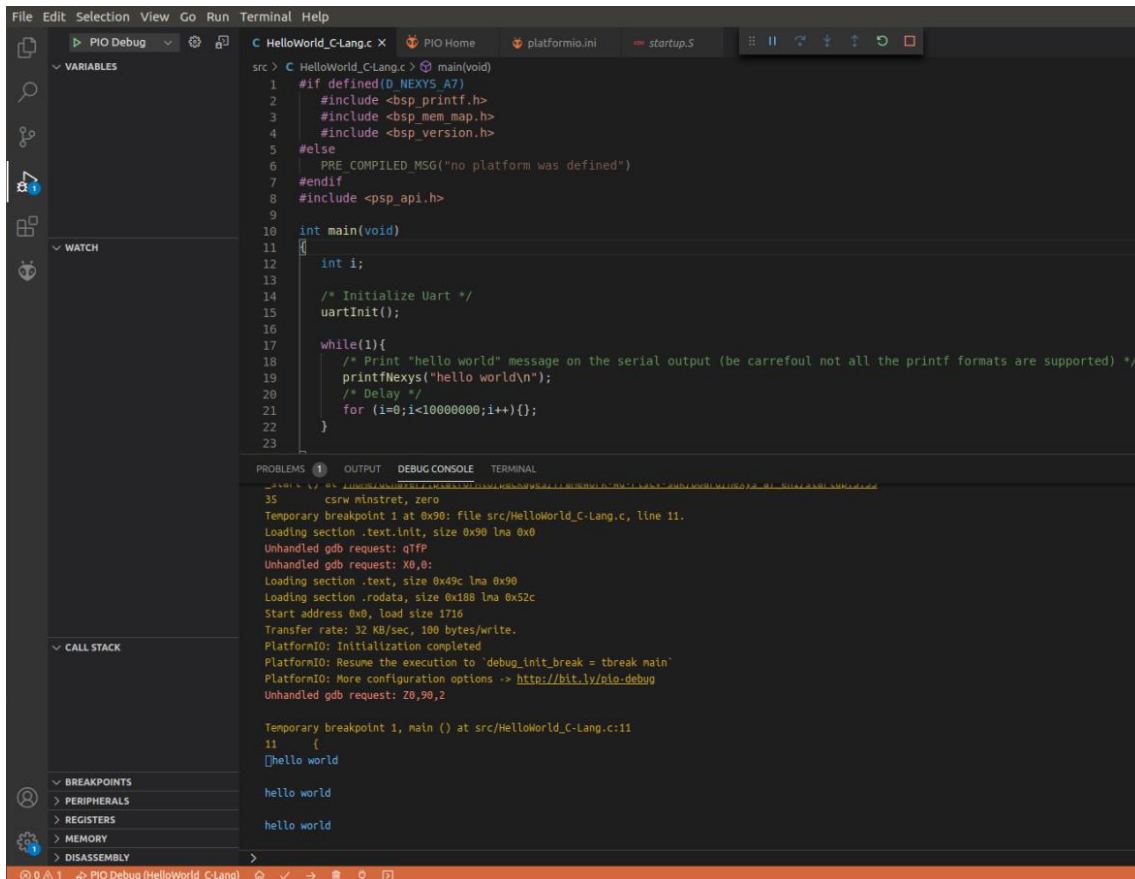

Figure 92. Execution of the HelloWorld_C-Lang example in Whisper
5. If a program uses the `printfNexys` function in Whisper, such as the HelloWorld_C-Lang example (Section 6.F), you should not open the PlatformIO serial monitor, as messages are shown in the DEBUG console instead (see Figure 92).